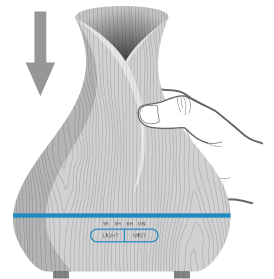

Fig. 4
- 4 Re-attach the cover to the water tank. Spout is adjustable to guide aroma into desired direction. DO NOT operate the Oil Diffuser without the cover. (Fig. 4)